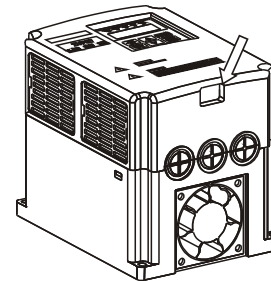
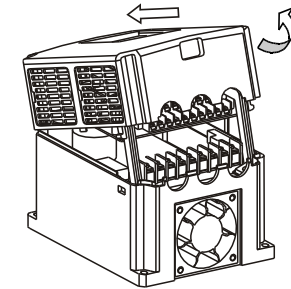

Fig. 3-4 Diagram of dismantling the upper cover of the inverter Model A
Fig. 3-5 Diagram of dismantling the upper cover of the inverter Model A
Put a finger into the notch of the lower part of the inverter (as shown in Figure 3-4 where the arrow points), stretch upward for 30~50mm (as shown in Figure 3-5), then push forward to open the upper cover of the inverter.
Step 1. Open the upper cover of the inverter (as shown in Figure 3-4 and Figure 3-5).